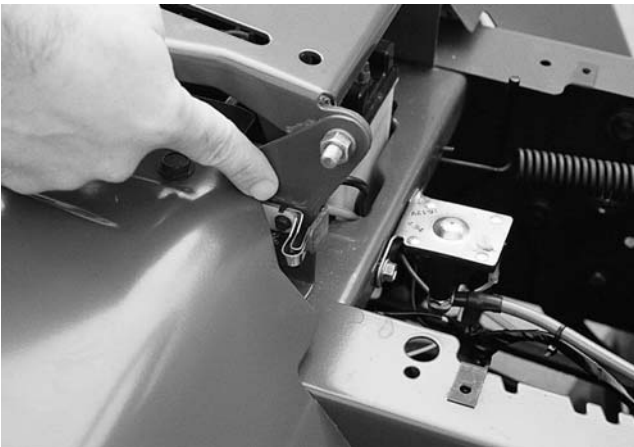

Figure 3-45.
2. Check the seat safety switch by disconnecting both yellow wires or the harness from the switch. See Figure 3-45.